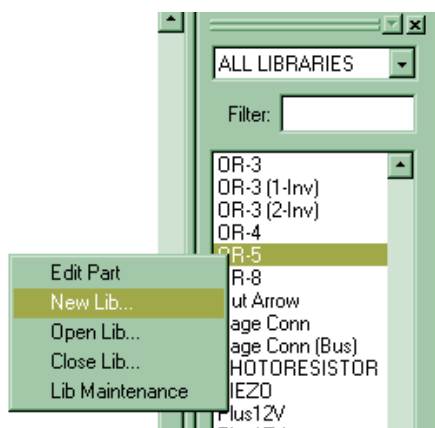

Figure 10-15
- Create and load your own device library by right clicking on the part palette and selecting new lib. Give a distinct name to your library. See figure 10-15.